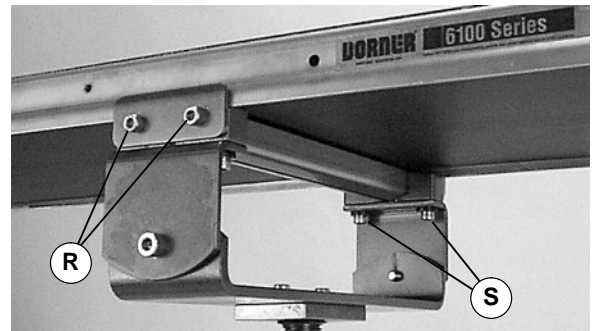

Figure 16
3. Attach clamp plates on each side of conveyor (Figure 16). Tighten the screws (R) to 80 in-lb (9 Nm).